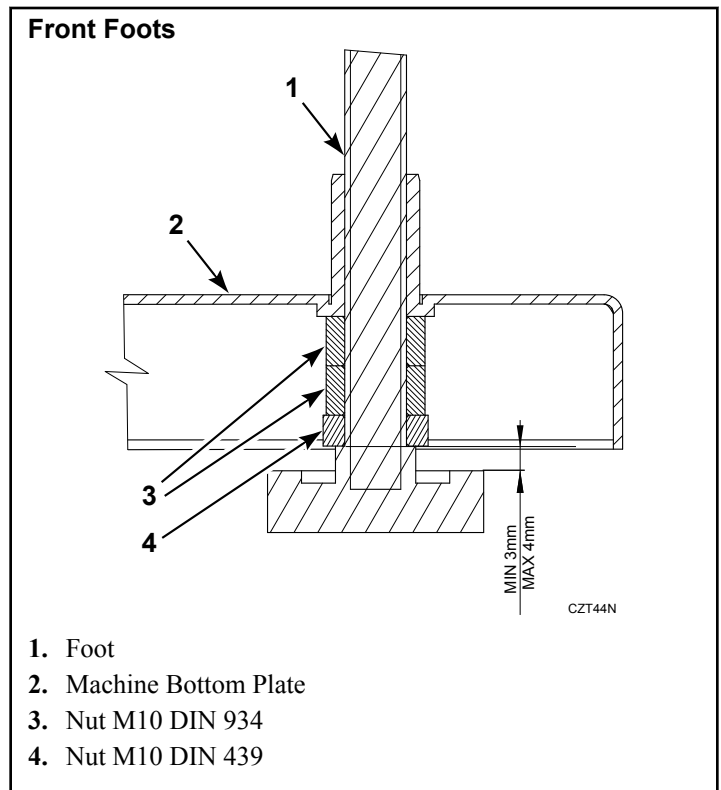

Figure 22
- Dismount the front feet from the machine (unscrew them). Screw one low nut M10 and two standard nuts M10 on the foot. Tighten the nuts fully. Screw the front feet assembled in such a way back into the machine. Tighten the feet fully. The assembled front foot in the machine is shown in *Figure 22*.
7. Move the dryer on the base frame carefully. Keep in mind that the front feet protrude below the machine base. Refer to *Figure 22*.